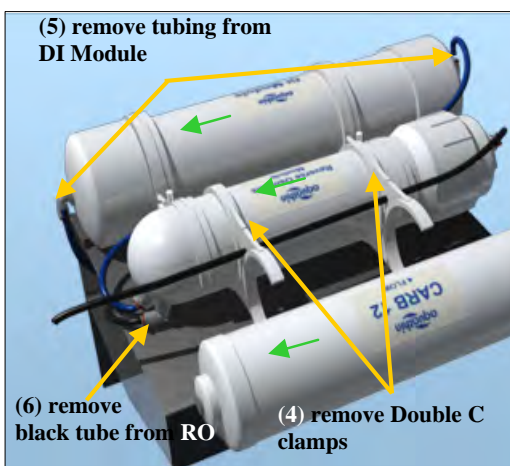

Figure 18: Steps 4-6
3. With the CARB 12 free of its connections, it can now be removed from the two “Double C” clamps holding it to the RO Module. *Note the direction of the “FLOW” arrow. You will need to install the new CARB 12 pre-filter in the same orientation.* Refer to Figure 18 for steps 4—6.